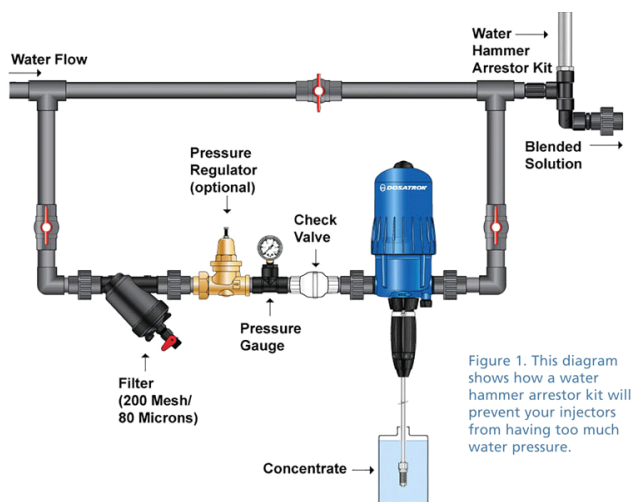

Figure 1. This diagram shows how a water hammer arrestor kit will prevent your injectors from having too much water pressure.
- Are you using solenoid valves? Solenoid valves installed downline of the injectors will close quickly causing water hammer. Water hammer will send a shockwave back to your injector three to four times the line pressure. If your line pressure is 50 PSI, that could mean 200 PSI will come back towards your injector and severely damage it. In order to prevent this, install a water hammer arrestor kit as shown in the diagram (Figure 1). Notice where it's placed and how it's installed. If you're using a watering boom, this is extremely important. Most watering booms all use solenoid valves.